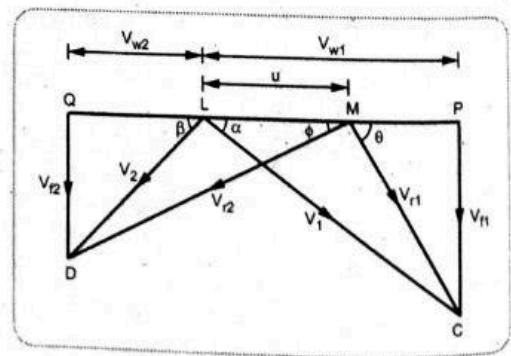

Fig. 4.11 : Combined velocity diagram for impulse turbine
- While drawing the combined velocity diagram, the blade velocity 'u' is taken as common for both the triangles. Refer Fig. 4.11.